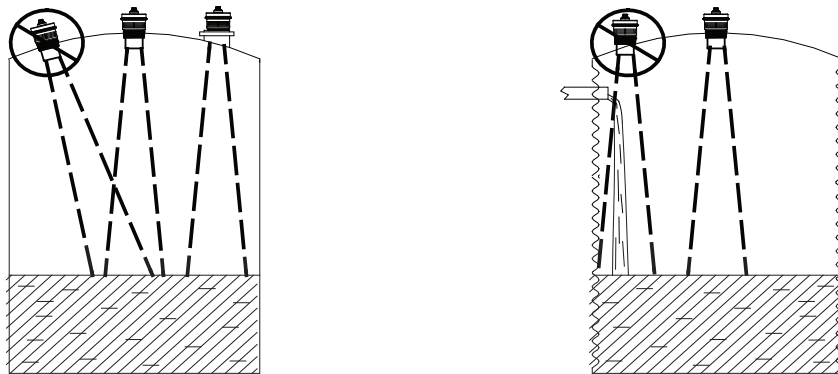

Figure 2.1
- Mount your MNU sensor so that it has a clear, perpendicular sound path to the surface being monitored. Your sensor should be mounted away from tank or vessel walls and inlets. (See Figure 2.1)